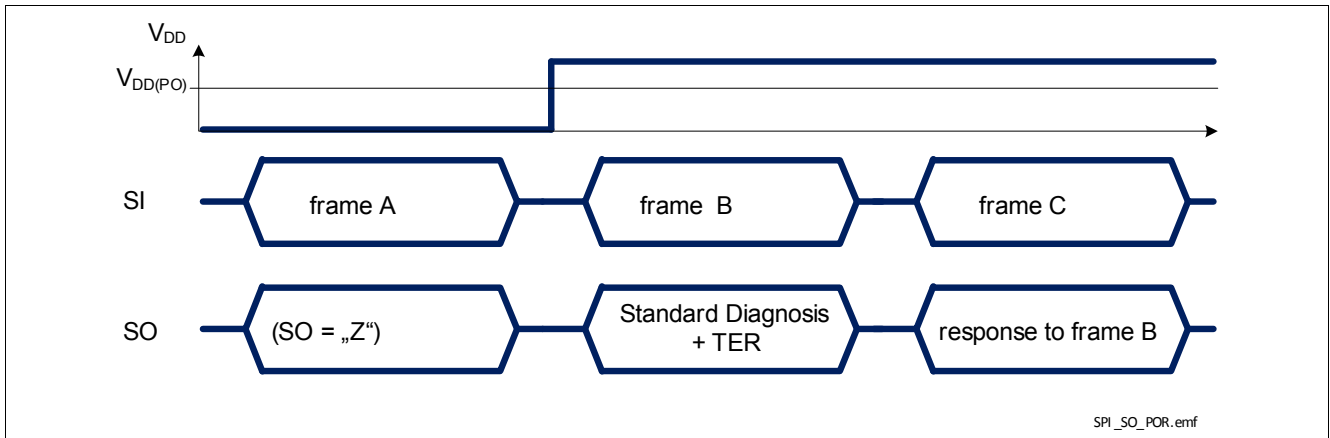

Figure 33 BTS54040-LBA response after coming out of Power-On reset at  $V_{DD}$
- when BTS54040-LBA logic supply comes out of Power-On reset condition, as shown in Figure 33